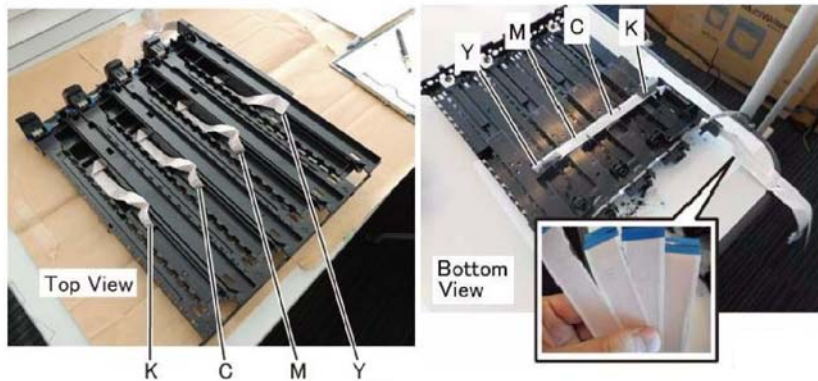

Figure 15 FFC cables
25. Repeat for all FFC cables, removing in the order of Y, M, C, K, Figure 15.